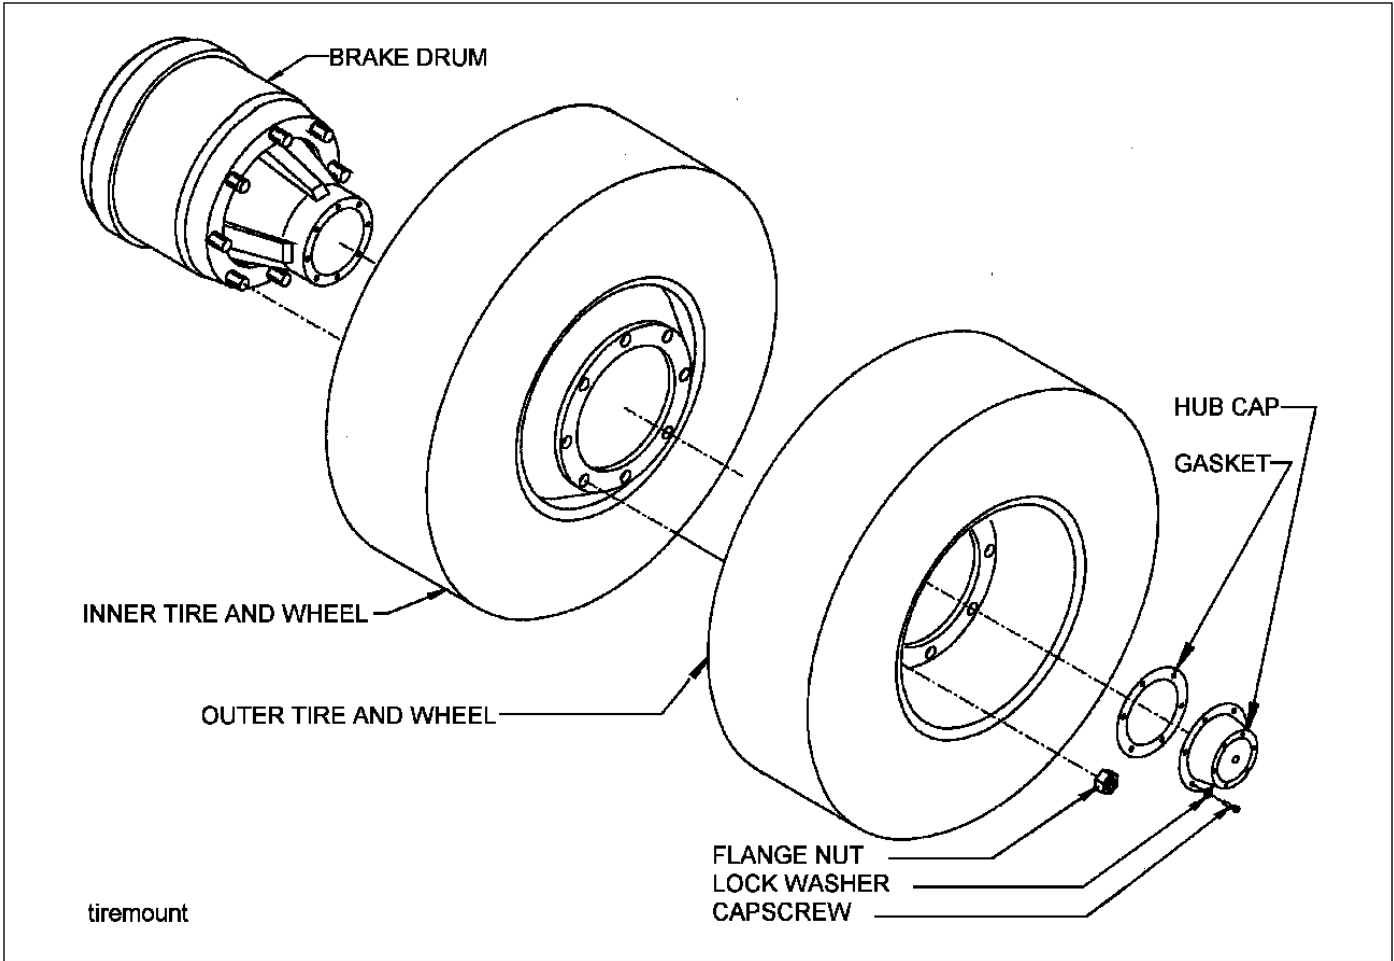

Figure 4-19: Mounting Tires and Wheels
6. For aluminum wheels, often a separator plate is used (**See Figure 4-19.**) The separator plate is approximately .040" thick. It is placed between the drum and the wheel, or between two wheels in dual applications. The separator plate is recommended in severe applications where corrosion and/or wear have been identified. Aluminum wheels benefit from use of the separator plate. Care must be exercised in centering the separator plate prior to torquing, and stud length must be checked as each plate is approximately .040" thick.
1. Make sure that all mounting surfaces are clean and free of rust, dirt or paint. A wire brush may be used to clean these surfaces (See Figure 4-19.)